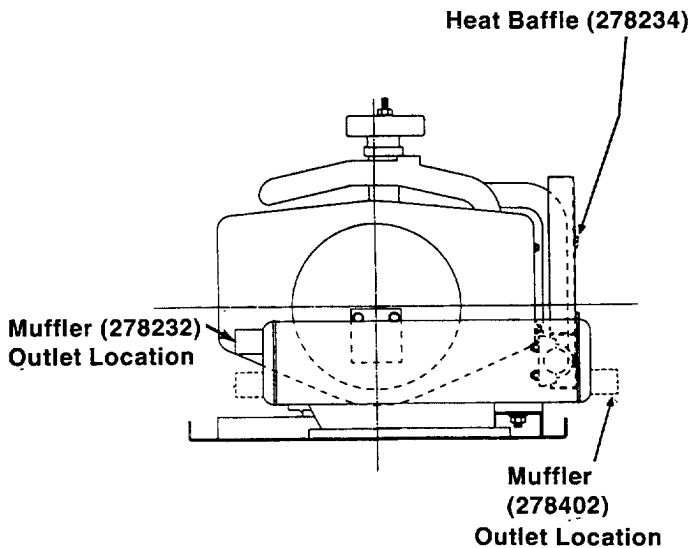

Figure 2. Muffler Position
- Slide muffler (278232 or 278402) inlet over exhaust manifold outlet as shown in Figure 2. Align holes in muffler bracket with those near center of engine enclosure. Secure muffler outlet at manifold with clamp (237548) and at bracket with screws (X-125-33) and lock washers (X-21-1).